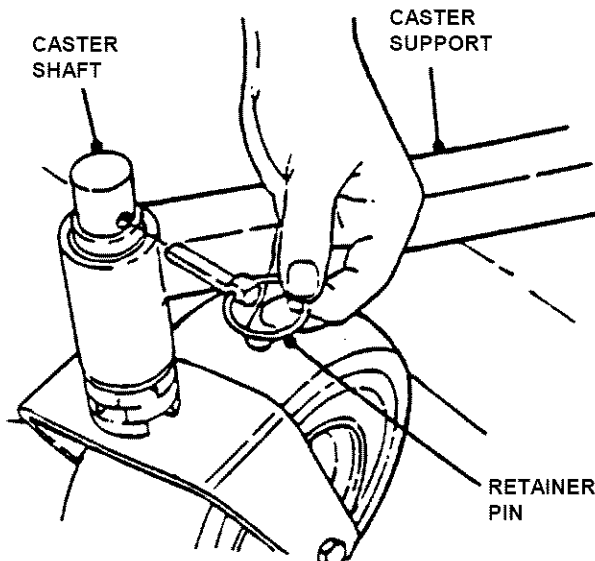

FIGURE 3.10
1. Remove Retainer Pin from Caster Shaft. See Figure 3.10.